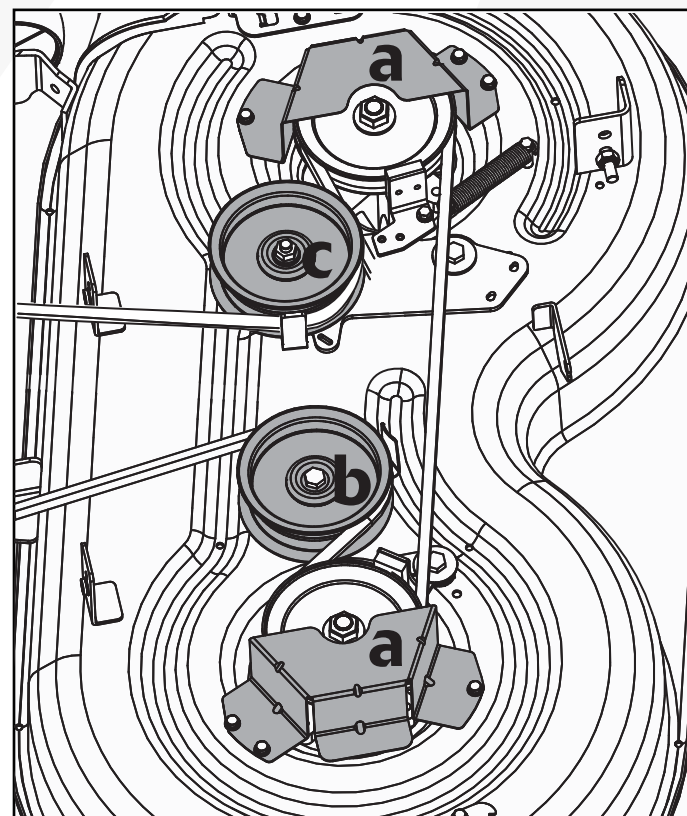

Fig. 31
2. Remove the two belt protective covers (a, Fig. 31) by removing the six screws that fasten them to the deck.
3. Remove the fixed pulley (b, Fig. 31) and tension pulley (c, Fig. 31).